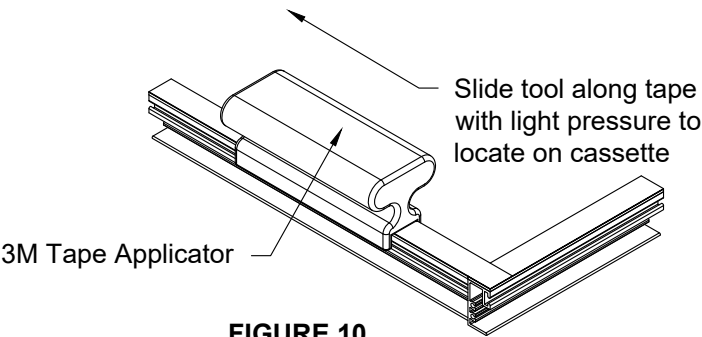

FIGURE 10
- 2.7 Tape applied to cassette using 3M tape applicator SEE FIGURE 10